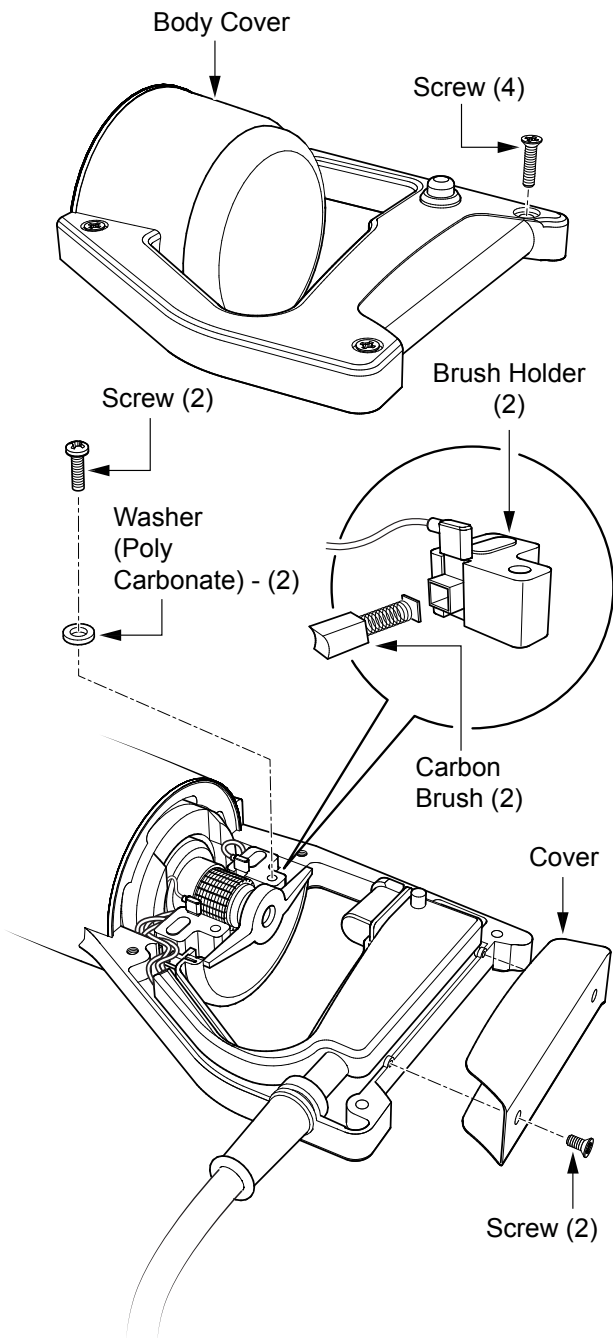

Figure 6. Carbon Brush Replacement
1. To gain access to the carbon brushes, remove the body cover from the motor (see Figure 6).